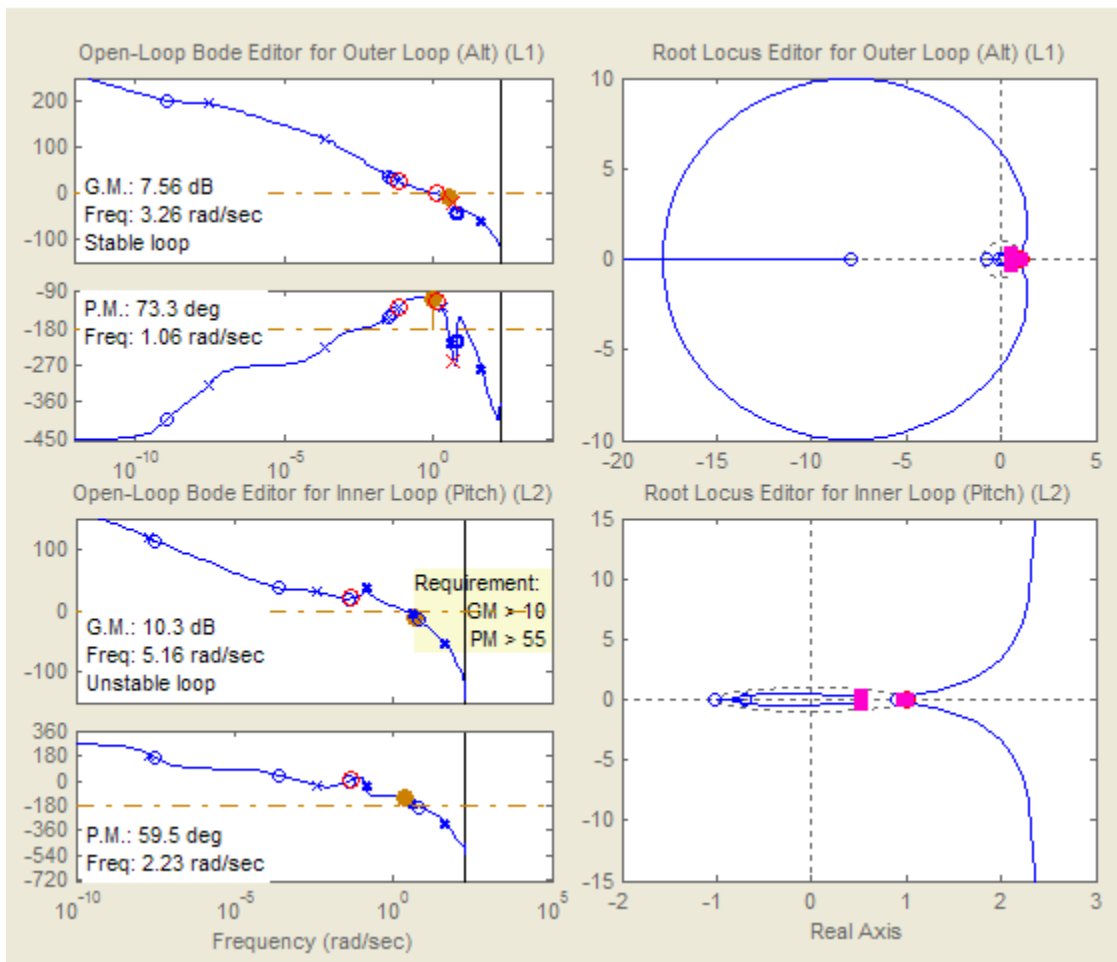

Figure 13: Design plots at trim condition after controller tuning.
To make the multi-loop design more systematic, we use a sequential loop closure technique. This technique lets us incrementally take into account the dynamics of the other loops during the design process. With Simulink Control Design, we configure the inner loop to have an additional loop opening at the output of the outer loop controller (C1 in Figure 12). This approach decouples the inner loop from the outer loop and simplifies the inner-loop controller design. After designing the inner loop, we design the outer loop controller. Figure 13 shows the resulting tuned compensator design at the final trimmed operating point.
- You can use a graphical approach, and interactively move controller gain, poles, and zeros until you get a satisfactory response (Figure 13).